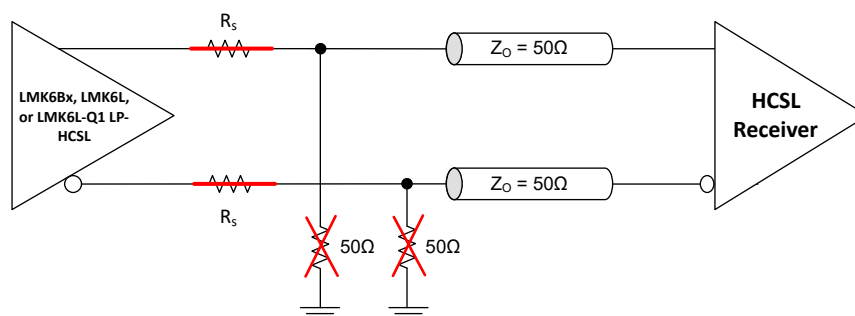

Figure 8-5. Replacing an HCSL Oscillator With the LMK6L-Q1
- Depopulate any 50Ω resistors to GND as shown in Figure 8-5.
- Replace any series resistors with 0Ω as shown in Figure 8-5.